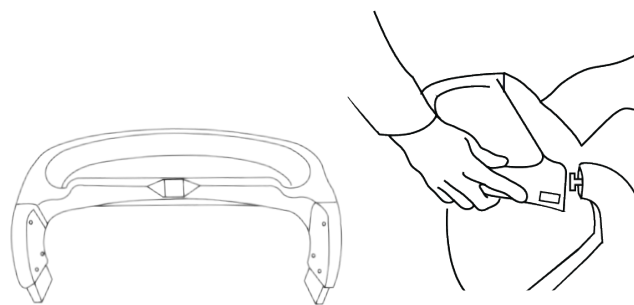

Fig. 11
10. To attach the child tray: Rotate and align left and right side of child tray posts with the left and right side stroller tray posts. Press left and right side child tray posts into left and right side stroller tray posts into a fully locked position. Press left side child tray button and snap child tray onto stroller tray posts. Release button to lock child tray onto stroller (Fig.11). Repeat on right side of child tray. Check to make sure the child tray is securely attached to the stroller by pulling upward on the child tray.